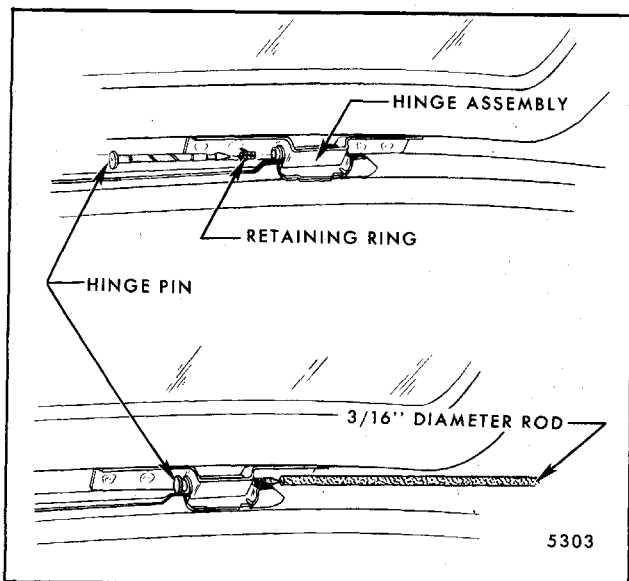

Fig. 7-112-Tailgate Hinge Pin Removal
9. Use a 3/16" diameter rod, 18" long to remove hinge pins from hinge. As shown in Figure 7-112, place end of rod against pointed end of hinge pin; then strike rod firmly to shear retaining clip tabs and drive pin through hinge. Repeat operation on opposite side hinge and remove tailgate from body.
1. Install new retaining rings onto notches provided in hinge pins. Position rings so that tabs point toward head of pin as shown in Figure 7-112.